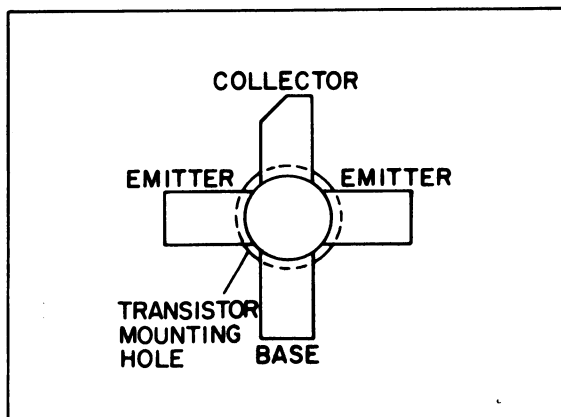

Figure 5 - Lead Identification
4. Trim the new transistor leads (if required) to approximately 3/8-inch lengths (3/16-inch lengths for Q3, Q4 and Q5 on 25-50 MHz transmitters). Cut the collector lead at a 45° angle for future identification (see Fig. 5). The letter "C" on the top of the transistor indicates the collector.